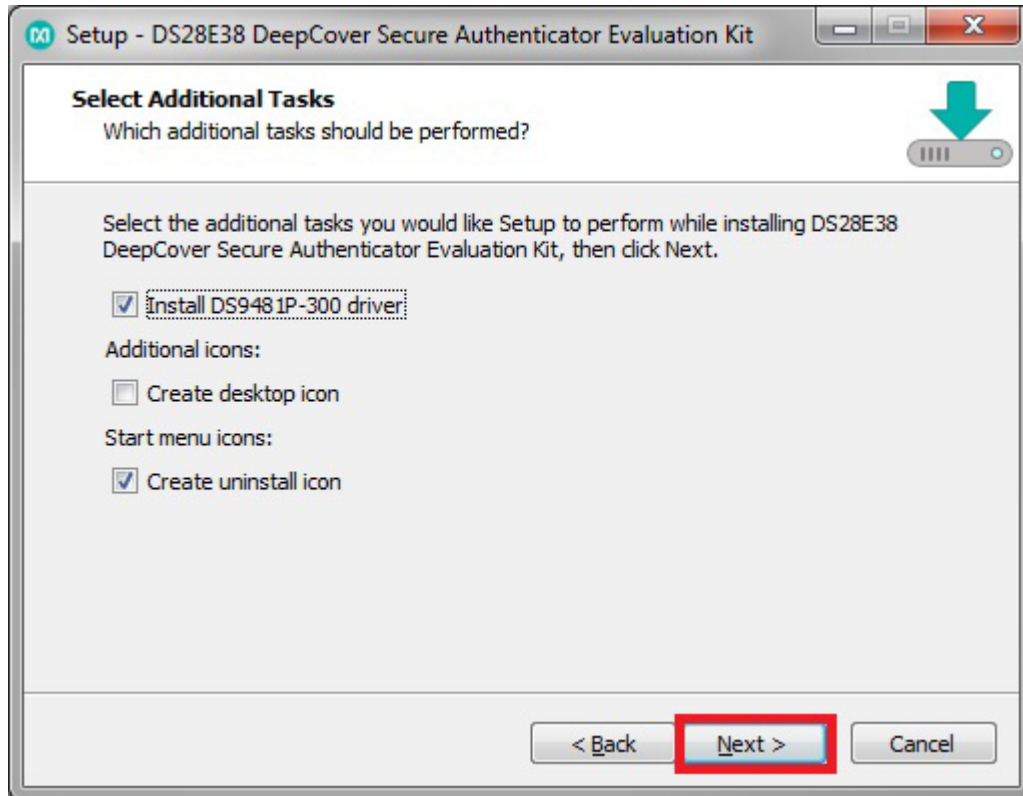

Figure 5. Select to Install the Driver
- 6) Unplug any Maxim adapter and click on **Next**, with the default settings checked. This selects and installs the DS9481P-300# driver, which is needed to communicate through the USB via a virtual COM port (Figure 5).